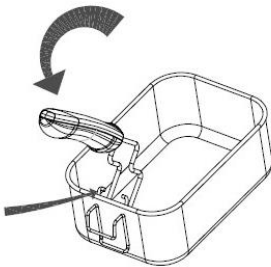
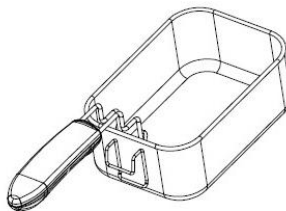

Fig.3
Fig. 4
5. Unfold the handle (fig 3) until it clicks in to position with the wire handle sitting either side of the wire bracket (fig 4 & 5).
- How to open frying basket handle – See figs. 3,4 & 5